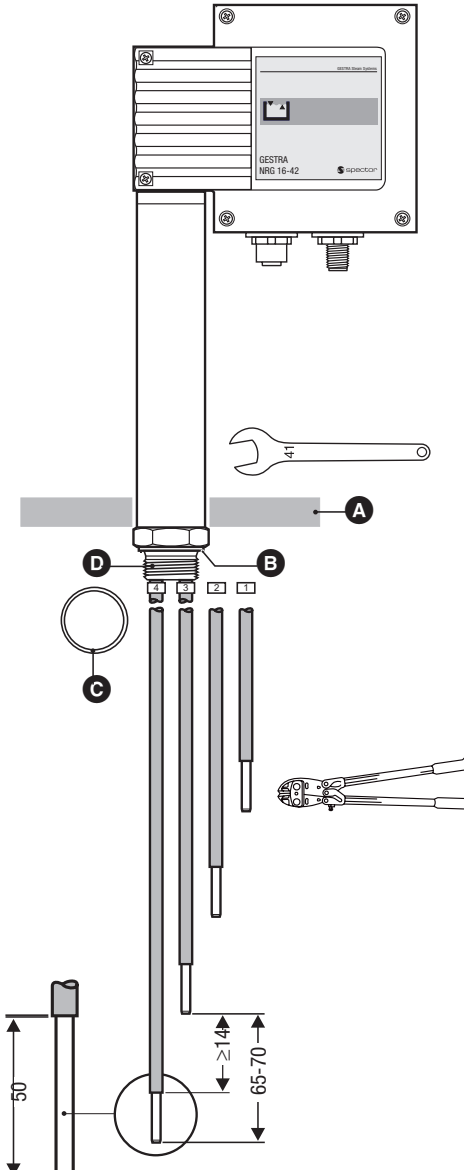

Fig. 3
2. Cut electrode rods **1**, **2**, **3** and **4** accordingly, **Fig. 3**
6. Place joint ring **C** onto seating surface **B** of electrode, **Fig. 3**. Use only joint ring (of stainless steel 1.4301) D 33 x 39 to DIN 7603 supplied with electrode.